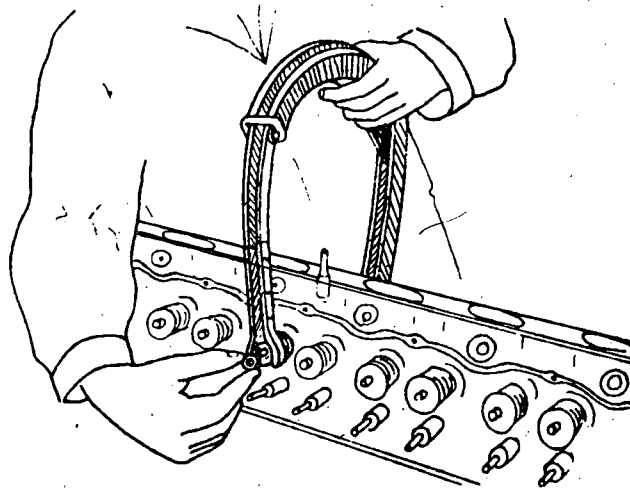

Fig. 1
- a) Compress the valve springs, positioning the valve spring compressor between the sustaining plate and the valve head (fig. 1), and tighten the valve spring compressor.